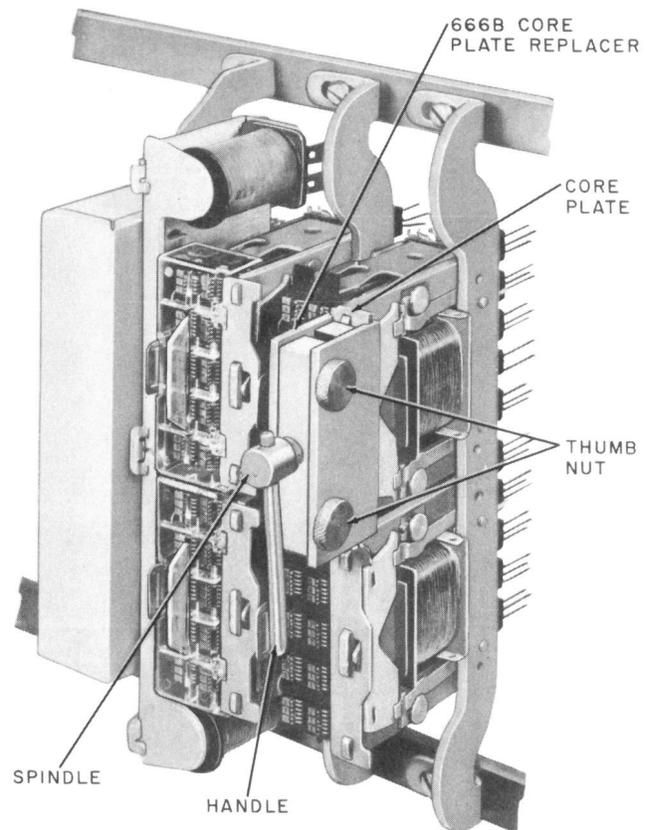

Fig. 15—Removing Core Plate Using 666B Core Plate Replacer
3.40 *Removing Core Plate:* Remove the core plate as follows: Place the 666B core plate replacer on the relay so the grooves in the tool fit over the sides of the core plate with the thumb nuts at the right as shown in Fig. 15. Tighten the thumb nuts so the replacer firmly engages the core plate. Turn the spindle of the replacer clockwise until the core plate is free of the core and remove the replacer and core plate. Remove the core plate from the core plate replacer.